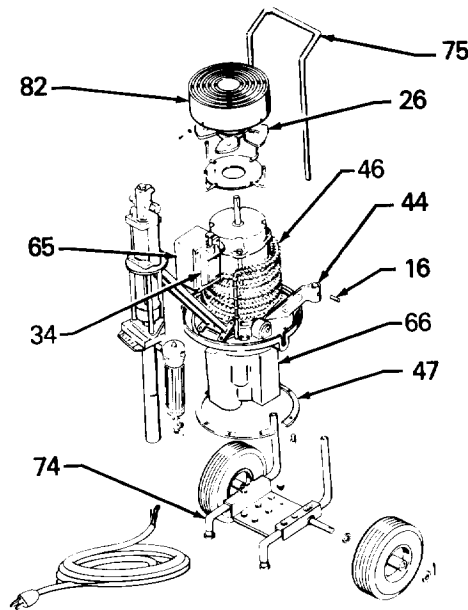

Fig 10
1. Remove the shield (14). Remove the four screws (9) and washers (17) holding the upper fan guard (82) to the motor and remove the guard. Loosen the fan blade setscrew and pull the fan (26) off the motor.
2. Take off the switch box cover (34) and disconnect the electric cord wires. Take care not to scratch the smooth mating surfaces of the switch box (65) and cover (34).
3. Drive out the two spring pins (16) holding the support mounting (44) and handle (75) to the cart frame (74) and pull the handle out of the frame. See Fig 10. Hook onto the switch box conduit with a hoist and lift the unit about 6 in. (150 mm) off the floor, then pull the cart frame down out of the support mounting and move it out of the way.